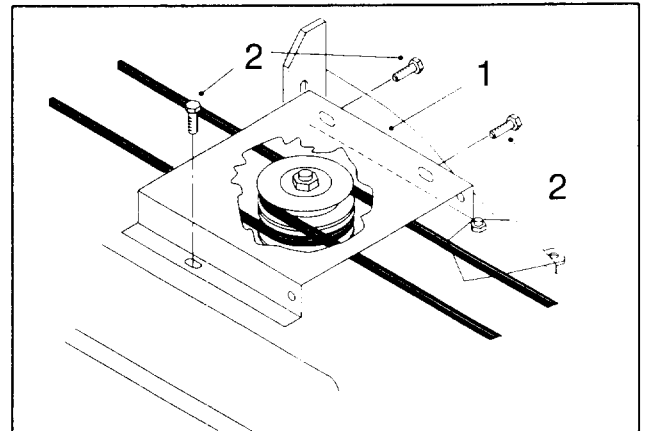

Figure 9
42" Mower belt cover—Mount the mower belt cover loosely on the outside of the belt-cover bracket and the top of the mower using three $\frac{1}{4}$ " x $\frac{1}{2}$ " thread-forming hex-head flange screws (Fig. 9). **Do not tighten the screws** because an adjustment must be made later.
5. Close the blower cover completely. While holding the blower cover down, tighten the mower belt-cover screws (Fig. 9 or 10).